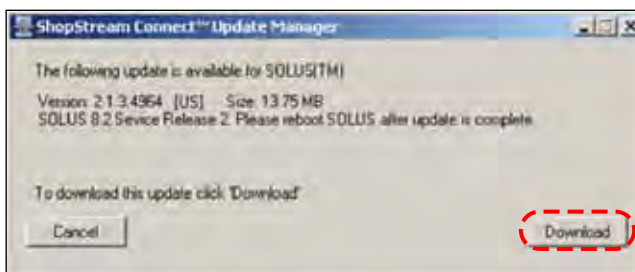

Figure C-13 Sample update available screen
- b. If an upgrade is available, an updates found message displays (Figure C-13). Select **Download** to begin the upgrade process and continue to Step 8.